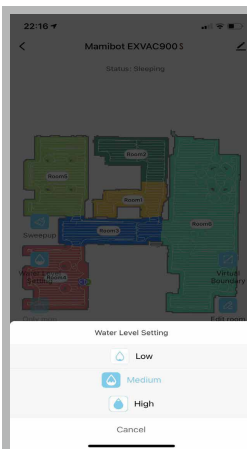

Fig.18
- Users can set the water level if robot works with mopping plate (Fig.18).